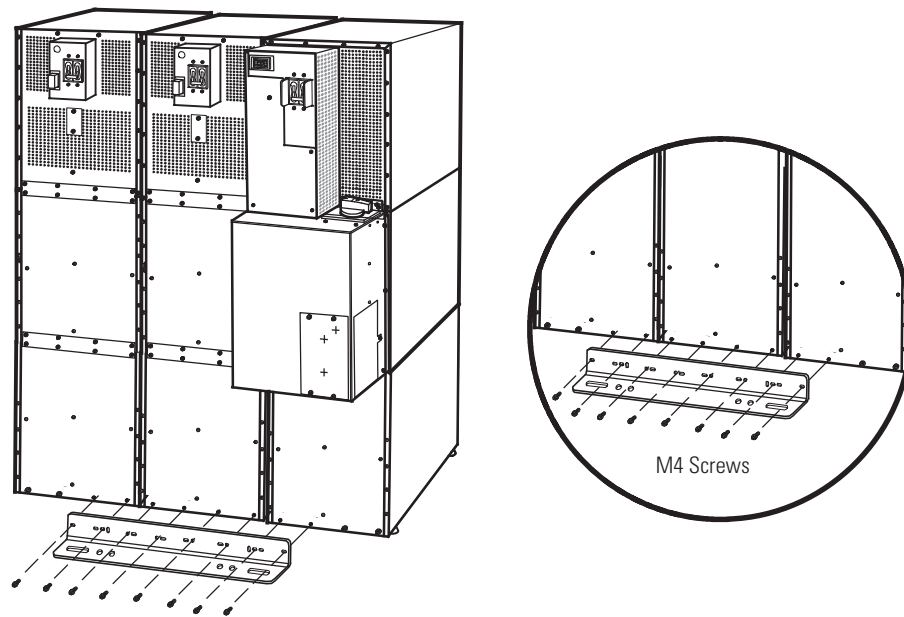

Figure 43. Stabilizing Bracket with Three Cabinets
- For three cabinets, see Figure 43.